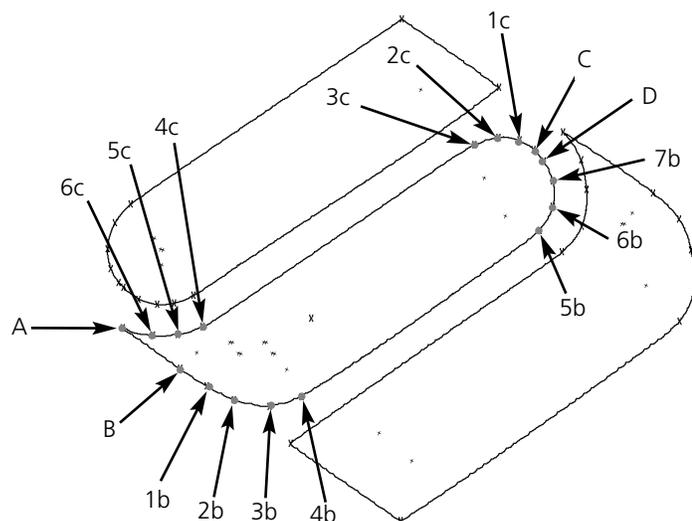

Figure 5-62
8. Refer to Figure 5-62 now and go to point B as with the first section of the logo and enter a Mk2 to define the beginning of the first side.
9. Define the curvature of the shape with Mk1s where needed (see 1b through 7b in Figure 5-62)